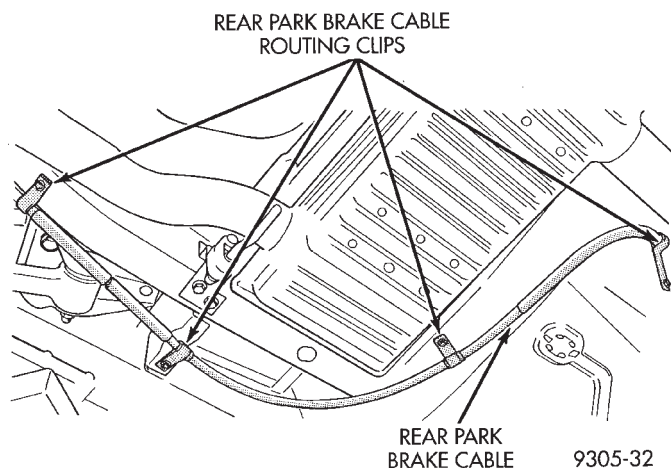

Fig. 122 Park Brake Cable Routing Clips
(7) Remove the 4 routing clips attaching rear park brake cable to floor pan and frame of vehicle (Fig. 122).
(8) Move passenger side front seat to its full forward position.
(9) Remove the drivers side front seat assembly from the vehicle. Refer to group 23 Body in this service manual for required procedure for front seat assembly removal.
(10) Remove rear seat lower cushion from vehicle. Refer to group 23 Body in this service manual for required lower seat cushion, removal procedure.
(11) Remove both lower rear door opening sill moldings. This is required to allow rear section of carpeting to be folded forward. This will expose the
(3) Install the 4 routing clips attaching rear park brake cable to floor pan and frame of vehicle (Fig. 122).